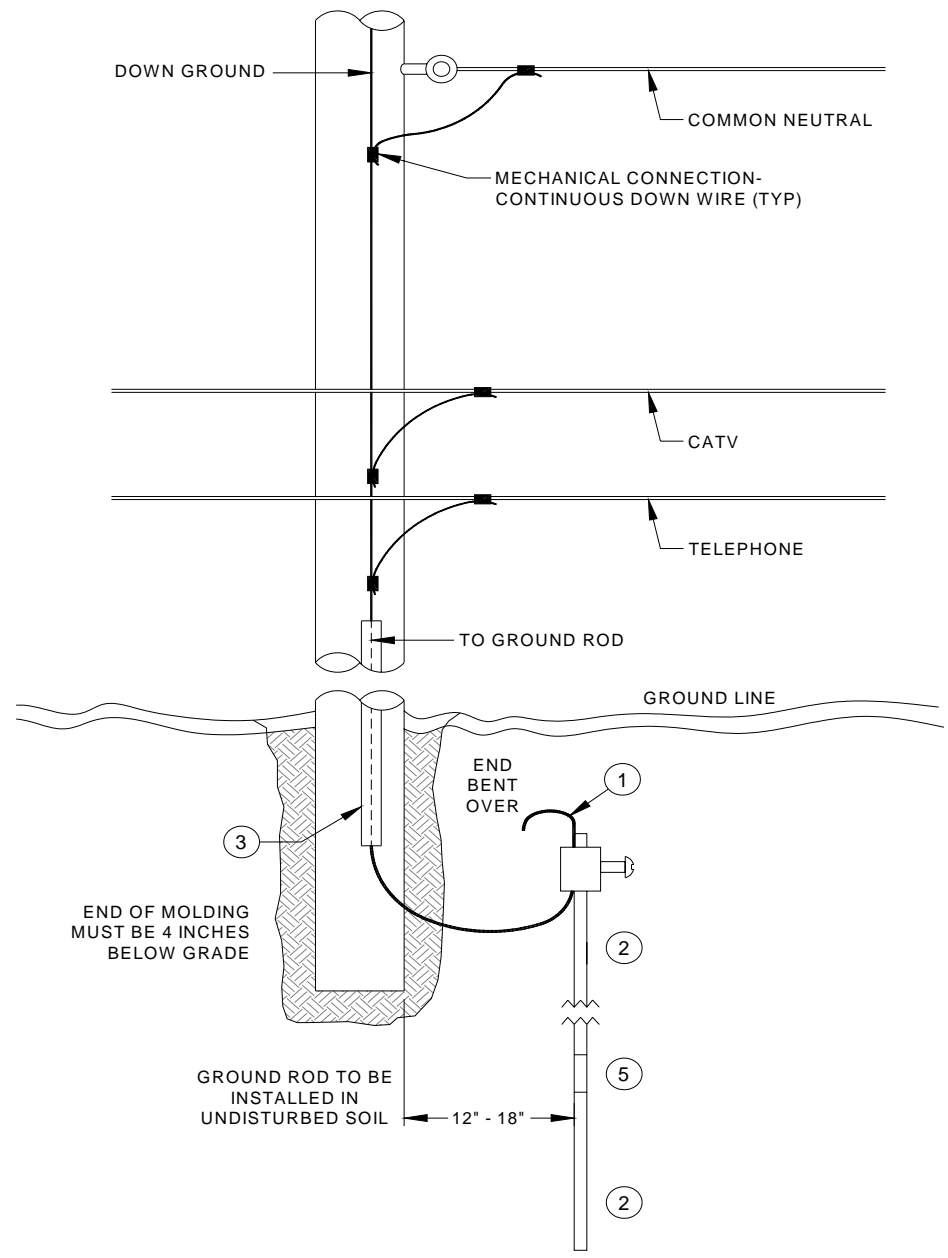

Figure 3 - Down Ground Connections.
- B. Terminate the down grounds from pole mounted equipment to the common neutral as shown in Figure 3, providing a disconnect point to safely remove grounds when required to perform work on the pole.